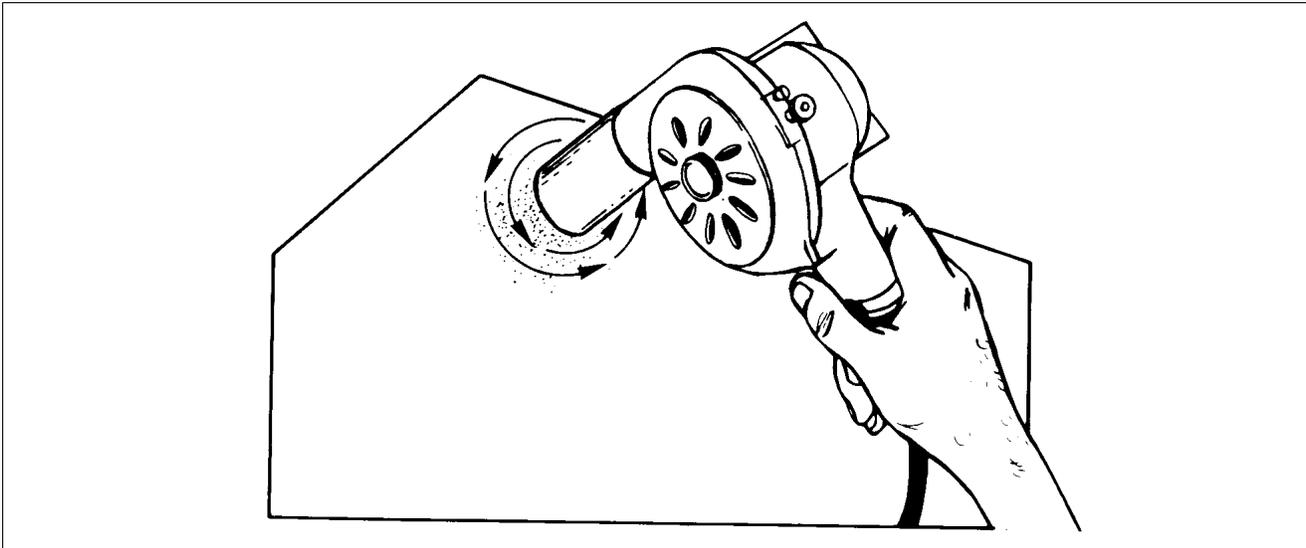
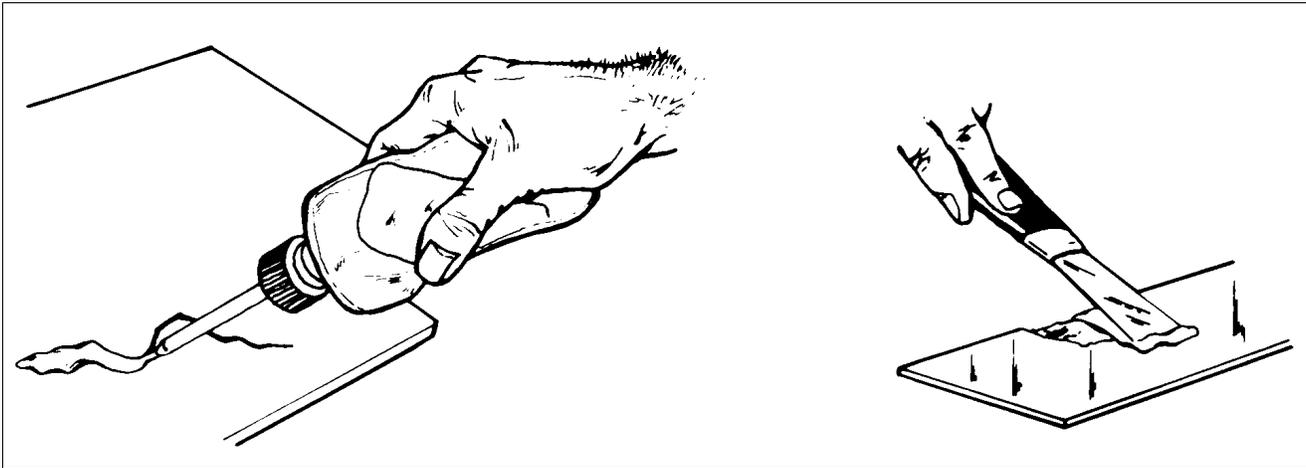
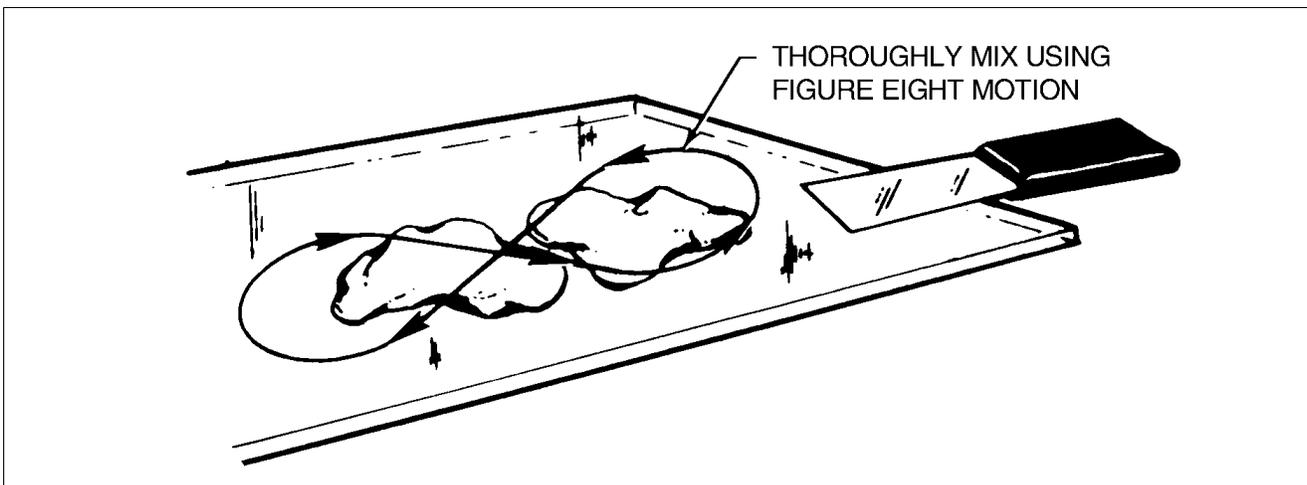

Figure 51-2. Surface Scratches, Abrasions or Ground-in-Dirt
Figure 51-3. Deep Scratches, Shallow Nicks and Small Holes
Figure 51-4. Mixing of Epoxy Patching Compound
- b. Surface Scratches, Abrasion or Ground-in-Dirt: (Refer to Figure 51-2.)
- (1) Shallow scratches and abraded surfaces are usually repaired by following directions on containers of conventional automotive buffing and rubbing compounds.
- (2) If large dirt particles are embedded in thermoplastic parts, they can be removed with a hot air gun capable of supplying heat in temperature range of 300 to 400F. Use care not to overheat material. Hold nozzle of gun about 1/4 of an inch away from surface and apply heat with a circular motion until area is sufficiently soft to remove dirt particles.
- (3) Thermoplastic will return to its original shape upon cooling.
- c. Deep scratches, Shallow Nicks and Small Holes: (Less than 1 inch diameter.) (See Figure 51-3.)
- (1) Solvent cements will fit virtually any of these applications. If area to be repaired is very small, it may be quicker to make a satisfactory cement by dissolving thermoplastic material of the same type being repaired in solvent until desired paste-like consistency is achieved.
- (2) This mixture is then applied to damaged area. Upon solvent evaporation, hard durable solids remaining can easily be shaped to desired contour by filing or sanding.
- (3) Solvent adhesives are not recommended for highly stressed areas, on thin walled parts or for patching holes greater than 1/4 inch in diameter.
- (4) For larger damages an epoxy patching compound is recommended. This type material is a two part, fast curing, easy sanding commercially available compound.
- (5) Adhesion can be increased by roughing bonding surface with sandpaper and by utilizing as much surface area for bond as possible.
- (6) Patching compound is mixed in equal portions on a hard flat surface using a figure eight motion. Damaged area is cleaned with perchlorethylene or VM&P Naptha prior to applying compound. (Refer to figure 51-4.)
- (7) A mechanical sander can be used after compound is cured, providing sander is kept in constant motion to prevent heat buildup.